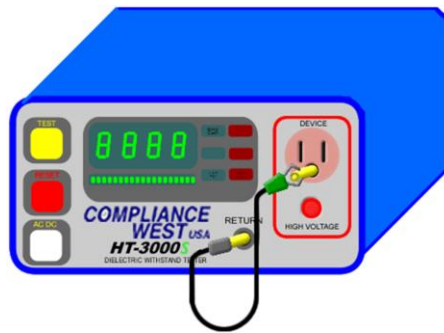

Figure 6. Short on the Ground Continuity Circuit
4. Plug the supplied 18 AWG GL Test Lead (Alligator Clip/Banana Plug ends, black) into the **RETURN** receptacle on the front panel, then, connect in short-circuit the green alligator clip end to the Ground Connector Tip connected on step 3. See Figure 6.